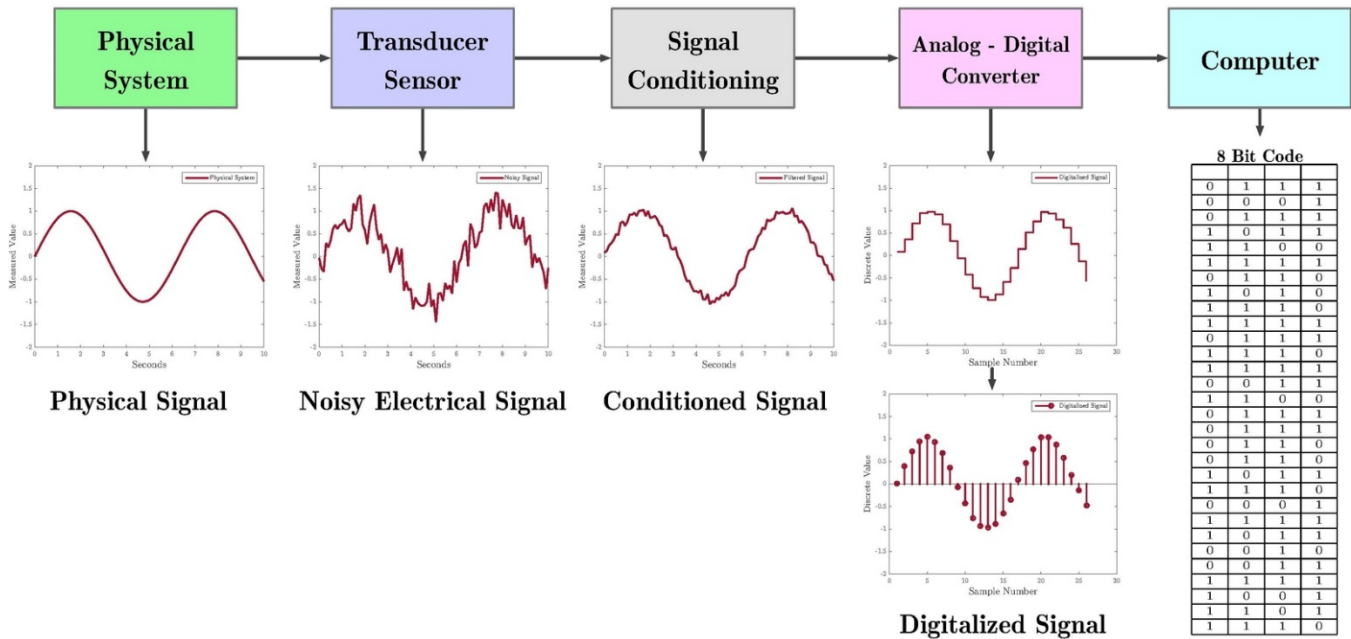

Figure 3.4: Data Acquisition System Block Diagram. © Enrique Z.L. Used under CC BY-SA license: <https://en.wikipedia.org/wiki/File:DigitalDAQv2.pdf>
Data acquisition (DAQ) allows a physical quantity to be measured and the data transferred to a computer. Figure 3.4 shows a block diagram that includes the basic elements of a DAQ system.
Note: You might want to click on the Figure 3.4 bookmark and press **Alt ←** to return back to this spot after reviewing the DAQ process again before reading this section.
Figure 3.4 shows that signal conditioning is the next step in the DAQ process after the sensor converts a physical quantity to an electrical signal. Signal conditioning is not always necessary and when it is needed it can occur before or after the Analog to Digital Converter (ADC) and can occur outside the computer using hardware or inside the computer using software. Some common types of signal conditioning are discussed below:
- **Filtering** – An example of this type of signal conditioning is shown in Figure 3.4, where a noisy signal is shown below the block labeled “sensor” and most of the noise is removed in the signal shown below the block labeled “signal conditioning.” Filtering is often necessary because noise is picked up by the sensor that can cause difficulties in making an accurate measurement of the physical quantity. When high frequency noise (usually characterized by spikes or blurring) are smoothed by the filter it is called a low pass filter (LPF) because low frequencies are passed through, while high frequencies are rejected. If the signal from a sensor such as an electret microphone (shown in Example 3.8) contains a high frequency waveform, then a high pass filter (HPF) might be needed to reduce lower frequency signals, such as 60 Hz noise from a transformer or even the DC offset that is introduced from electret microphone DC biasing circuitry. If both high pass filtering and low pass filtering is needed on the same signal, then a band pass filter (BPF) is used. Filtering that occurs prior to the ADC can be done with hardware, but **filtering in software** after the signal is digitized is also a common practice. Using the filtering express VI in LabVIEW is an easy way to implement a software filter. The GUI for the Filter express VI is shown in Figure 3.6a. When **implementing a filter with hardware**, either passive or active filtering is used. A **passive filter** can be created using a resistor along with capacitors and/or inductors (RLC circuits) to reduce the amplitude level of noise (or any unwanted signal), while allowing the wanted signal to pass through. Passive filtering is described in **Module 4 of the Davis AC Circuits eBook**. **Active filters** created with Operational Amplifiers (Op Amps) work like passive filters, but instead of just passing through the wanted signal they are also capable of amplifying it. A Texas Instrument document title: Filter Design in Thirty Seconds is a good reference document that shows the basics of active filtering.